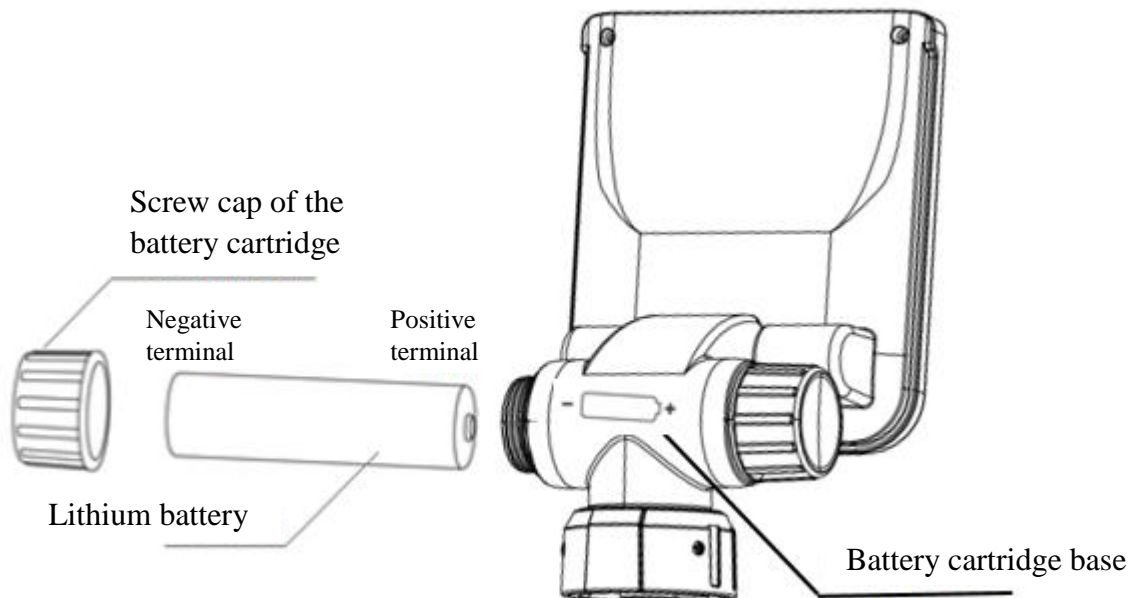

Figure 3.2
1. Install the lithium battery with sufficient power as shown in Figure 3.2 onto the battery cartridge base of the veterinary endoscopic image processor and tighten the screw cap of the battery cartridge.